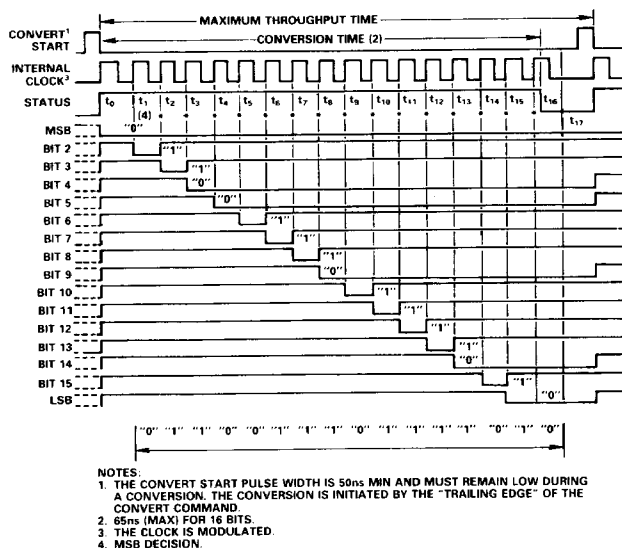

Figure 3. Timing Diagram (Binary Code 0110011101110110)
The timing diagram is shown in Figure 3. Receipt of a CONVERT START signal sets the STATUS flag, indicating conversion in progress. This, in turn, removes the inhibit applied to the gated clock, permitting it to run through 17 cycles. All the SAR parallel bits, STATUS flip-flops, and the gated clock inhibit signal are initialized on the trailing edge of the CONVERT START signal. At time  $t_0$ , B1 is reset and B2 – B16 are set unconditionally. This sequence continues until the Bit 16 (LSB) decision (keep) is made at  $t_{16}$ . The STATUS flag is reset indicating that the conversion is complete and that the parallel output data is valid. Resetting the STATUS flag restores the gated clock inhibit signal forcing the clock output to the low Logic "0" state. Note that the clock remains low until the next conversion.
**Short Cycle Input:** A short cycle input, Pin 9, permits the timing cycle, shown in Figure 3, to be terminated after any number of desired bits has been converted, permitting somewhat shorter conversion times in applications not requiring full 16-bit resolution. When 15-bit resolution is desired, Pin 9 is connected to Bit 16 output Pin 8. The conversion cycle then terminates and the STATUS flag resets after the Bit 15 decision (timing diagram of Figure 3). Short cycle connections and associated conversion times are summarized in Table I.